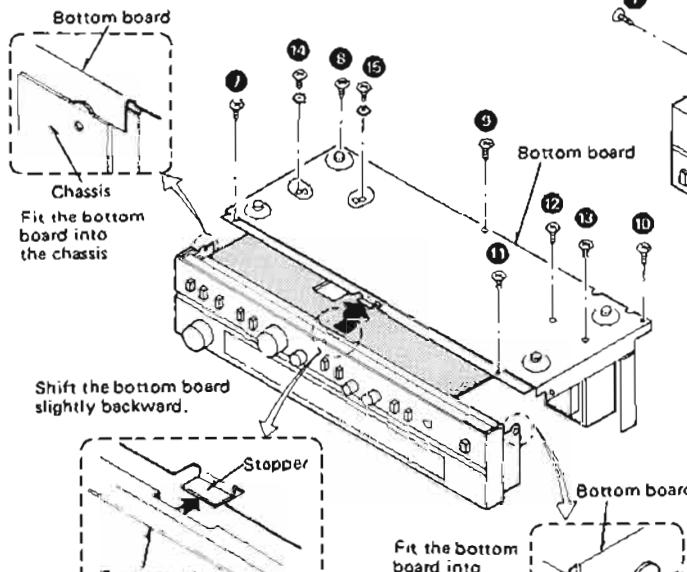

Fig. 2
2. Remove the 9 setscrews (Fig. 2: ⑦ ~ ⑯) of the bottom board.
3. Remove the bottom board as shown in Fig. 2.